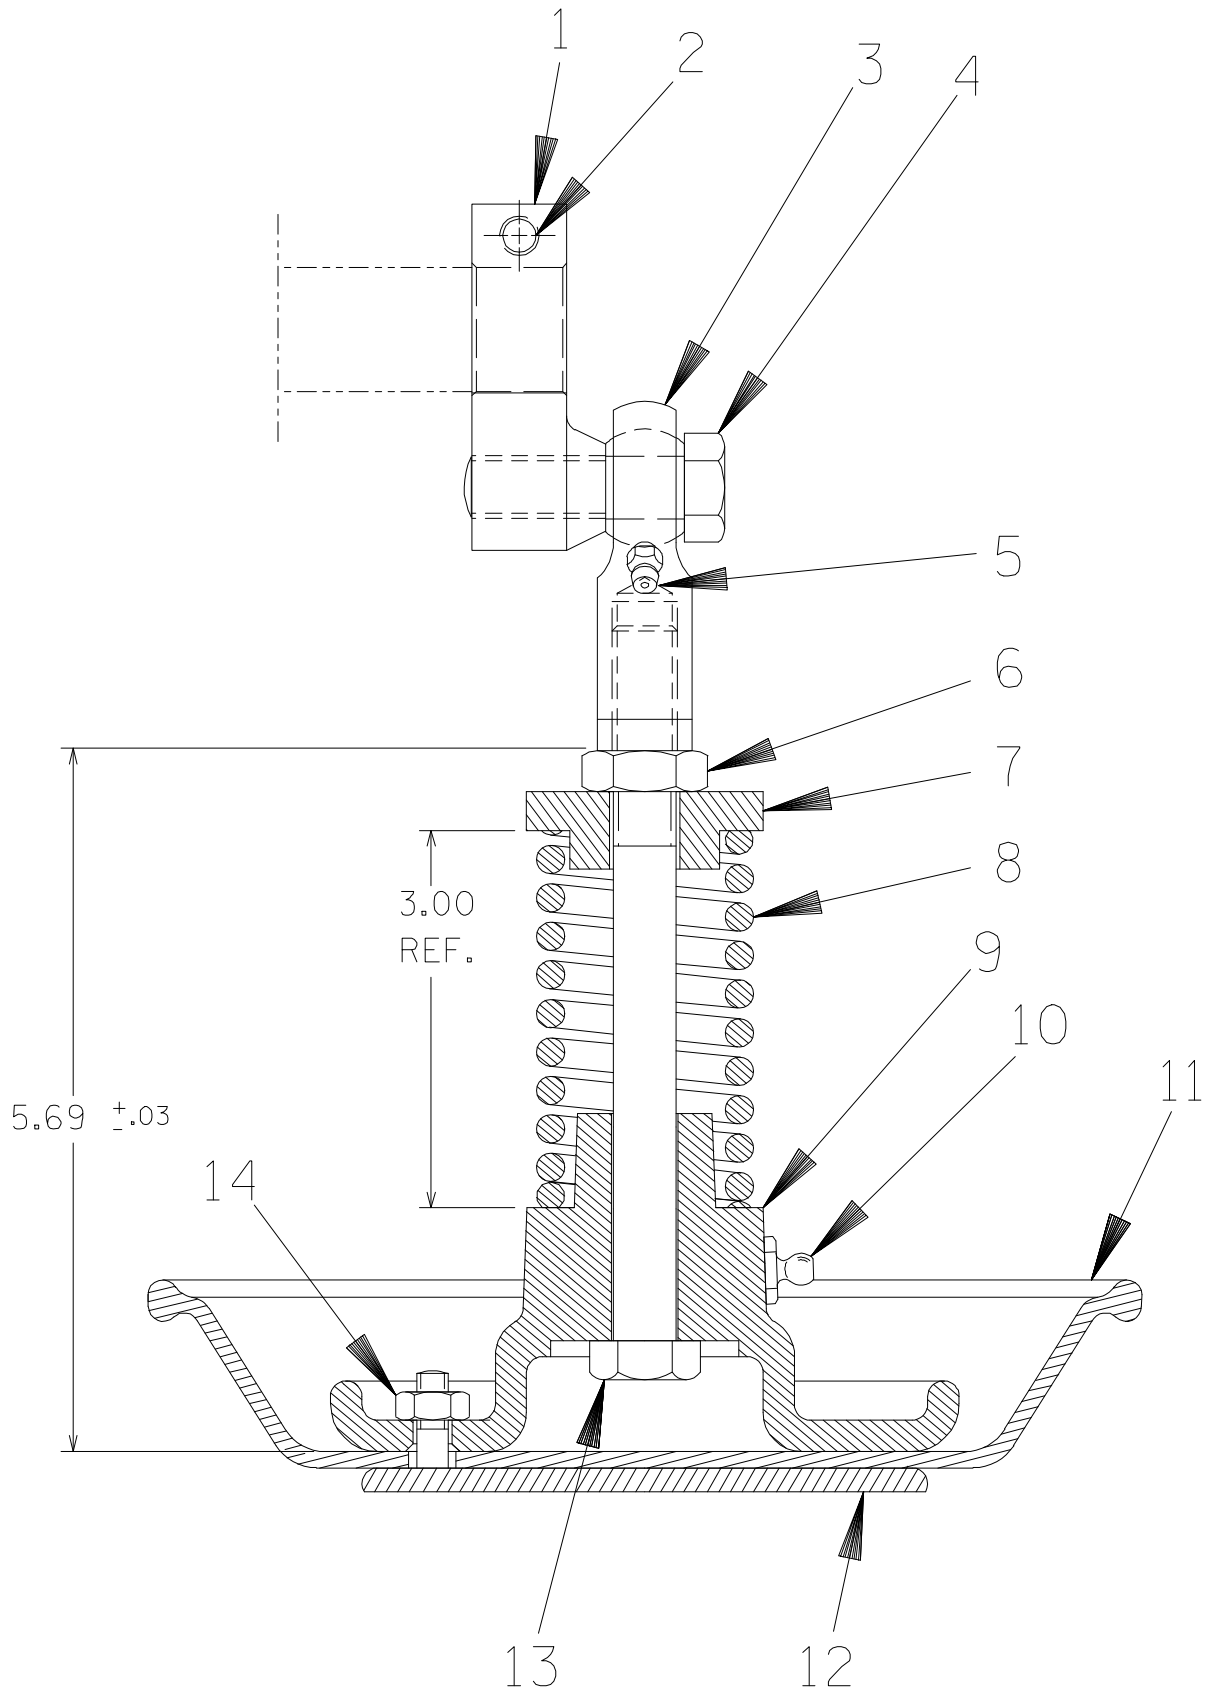

Figure 2. 46181-004 Plunger Rod Assembly
Before attempting to remove the diaphragm (11, Figure 2), rotate the motor shaft until the eccentric
(1, Figure 2) is at the top of its stroke and the spring (8, Figure 2) is decompressed.
### (Figure 2)
#### (Figure 2)
Slide the plunger rod (13) through the diaphragm plate (9). Install the spring (8), spring centering washer (7) and jam nut (6). Compress the spring to the dimension shown in Figure 2 by tightening the jam nut.
Position the retainer ring (11) over the diaphragm. Position the diaphragm and plunger rod in the diaphragm pot (22) with the grease fitting (10, Figure 2) facing away from the gear reducer (7).
If removed, secure the key (12) in the gear reducer keyway with “Loctite Retaining Compound No. 680” or equivalent and slide the eccentric over the gear reducer shaft. Secure it by tightening the socket head capscrew (2, Figure 2).
(Figure 2)